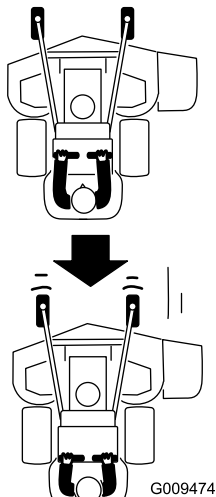

Figure 21
2. Slowly pull the motion control levers rearward (Figure 21).